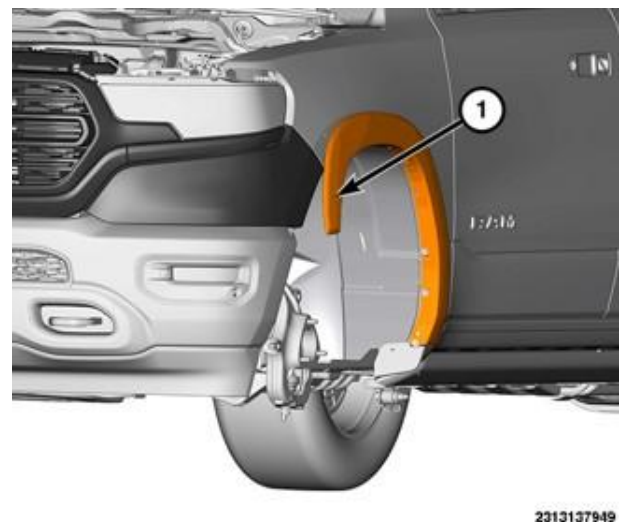

Figure C2 – Wheel Opening Molding
4. Release ONLY the front 1/2 of the wheel opening molding on each side of the vehicle (Figure C2).
5. Reach behind the backside of the fender and squeeze the wings of the w-clip together using 8 or 9 mm socket or pliers to release wheel opening molding from fender one clip at time (Figure C2).